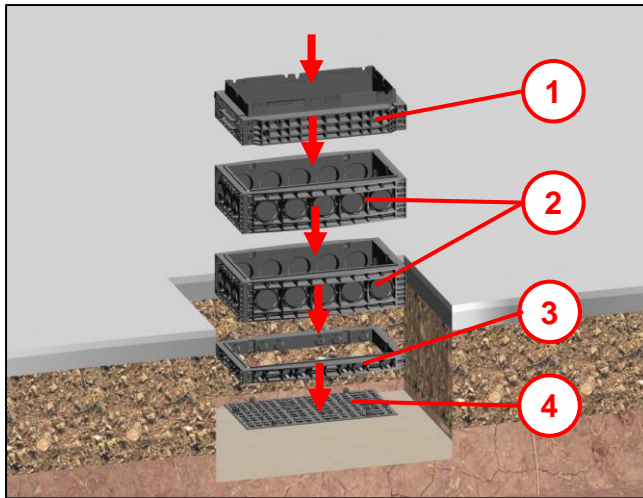
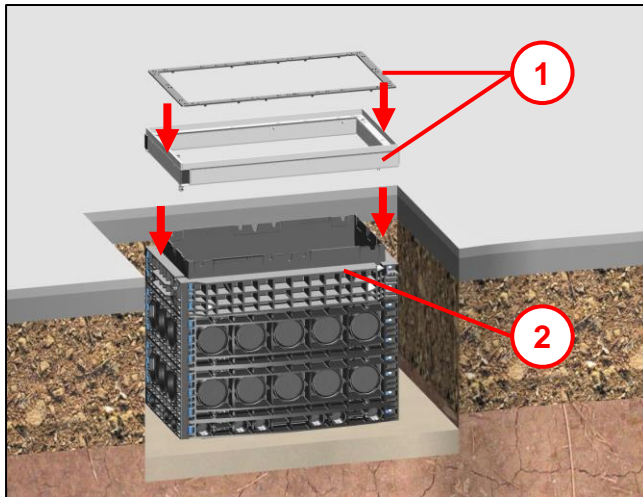

Fig. 14
Fig. 16
- Place the complete manhole on the foundation pit base, or construct the manhole body depending on how it is supplied (see Fig. 14 - Fig. 16).